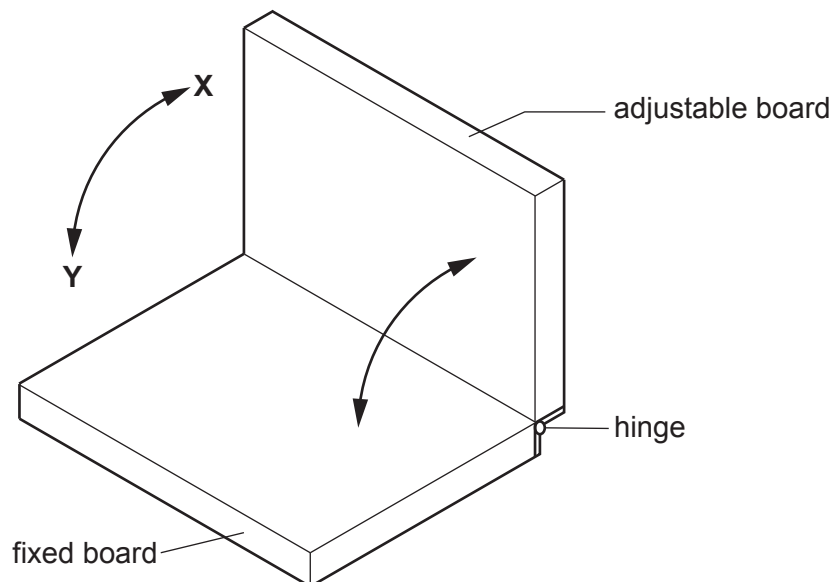

Fig. 7.1
- 7 Fig. 7.1 shows an incomplete design for a bending jig used when bending acrylic sheet.
Add to Fig. 7.1 to show how the adjustable board could be held securely in any position between **X** and **Y** so that acrylic sheet could be bent to the required shape. [3]